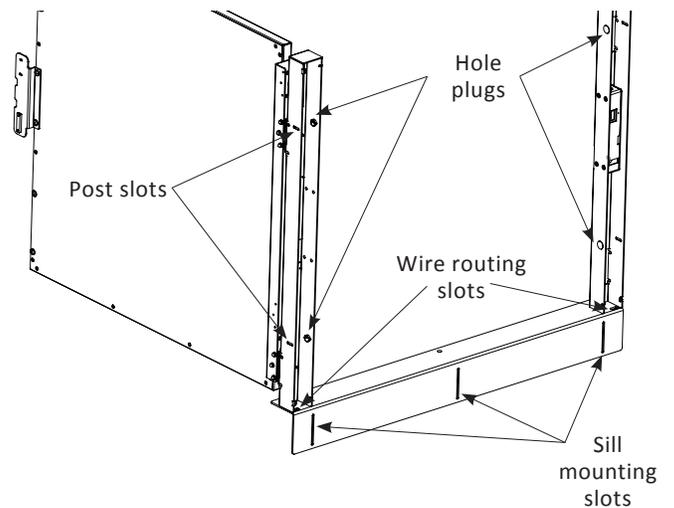

Figure 4-7
2. Create the necessary space below the gate sill so the wire can be routed into the gate post through the wire routing slot. **See Figure 4-7.**